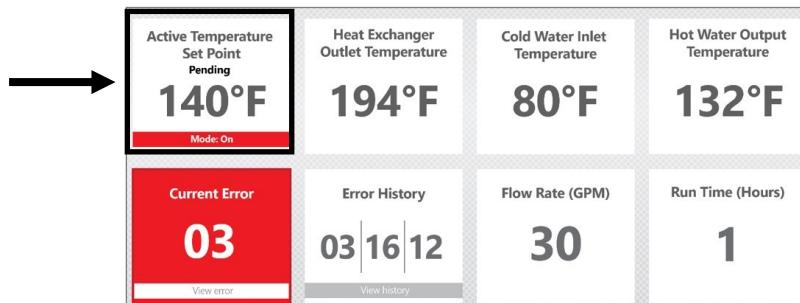

Fig 62. Active Temperature Set Point Box
1. On the tankless water heater parameter screen, press the “Active Temperature Set Point” box (Fig 62).